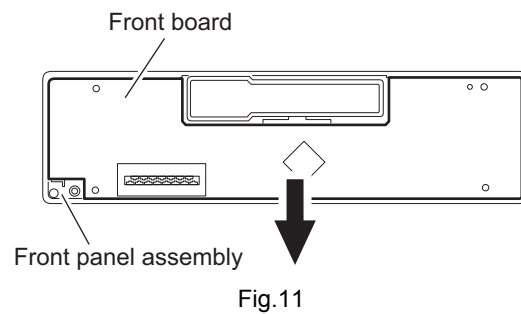

Fig.11
- (3) Remove the front board from the front panel assembly. (See Fig.11.)